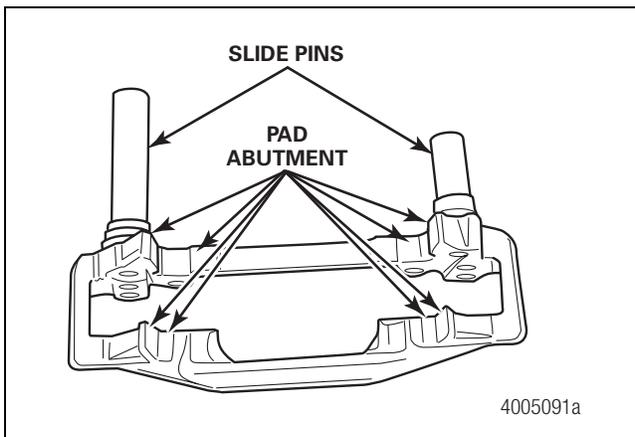

Figure 5.19
2. Clean and inspect the carrier for damage and wear. Pay particular attention to the pad abutment areas and slide pins. Figure 5.19.